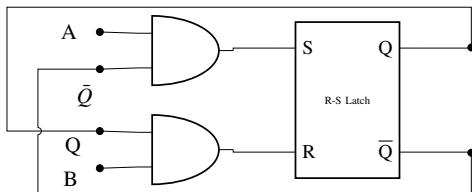

Fig. 5.26
29. The two inputs A and B are connected to to an R-S latch via two AND gates as shown in Fig. 5.26. If  $A = 1$  and  $B = 0$ , the output  $Q\bar{Q}$  is (GATE IN 2017)